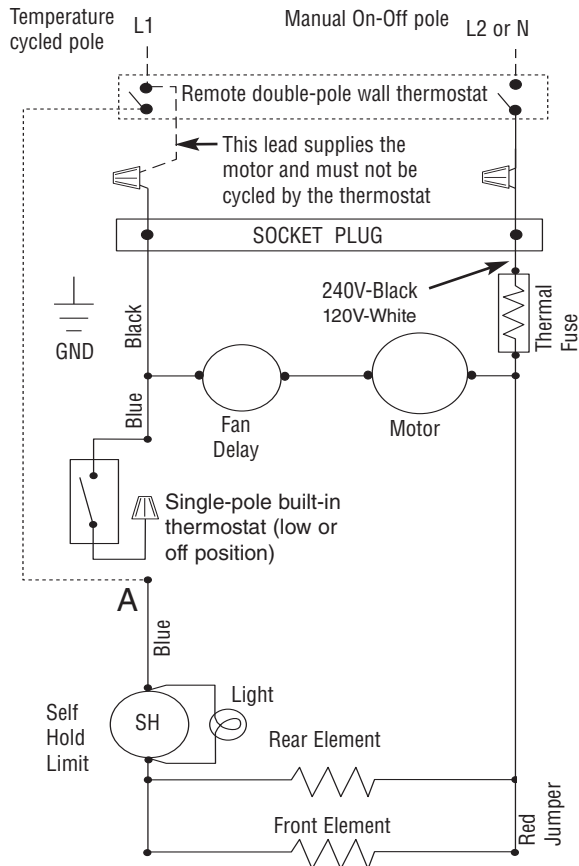

Figure 3 - Wiring For Remote Thermostat (For lower wattage rating remove red jumper)
- b. Disconnect blue lead from built-in thermostat lead at point A on wiring diagram, Figure 3. Cap off thermostat lead with wirenut. Connect blue lead to field supply lead from load side of thermostat. (See Figure 3). Make remaining field wiring connections per Figure 3.